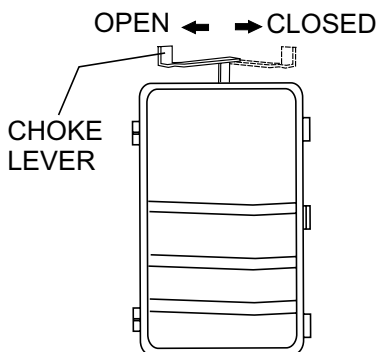

Figure 19. Choke Lever
2. Place the choke lever (Figure 19) in the **CLOSED** position if starting a cold engine.
3. Place the choke lever (Figure 19) in the **OPEN** position if starting a warm engine or the temperature is warm.
6. If the engine has started, slowly return the choke lever (Figure 19) to the **OPEN** position. If the engine has not started repeat steps 1 through 6.